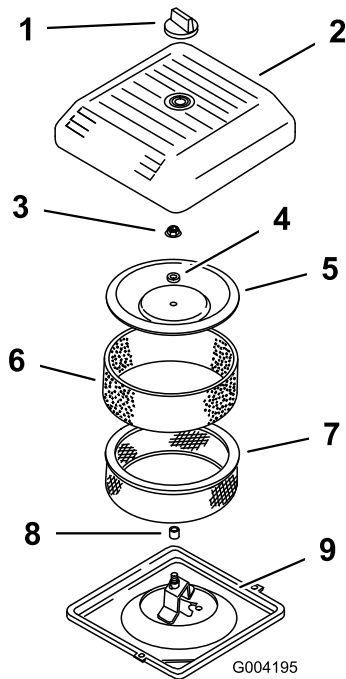

Figure 158
1. Carefully slide the foam pre-filter onto the paper filter (Figure 158).